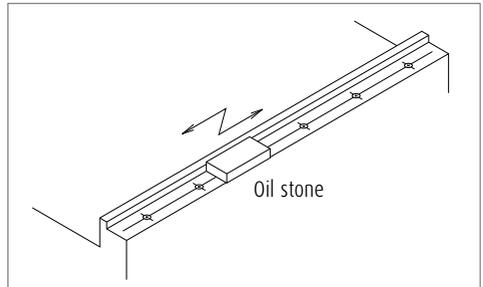

Fig. 10.12
(3) Installation procedures
- › For both methods, wipe off the rust preventive oil applied to the linear guide. Remove burrs and small bumps on the machine base and table mounting surface with an oilstone (Fig. 10.12).